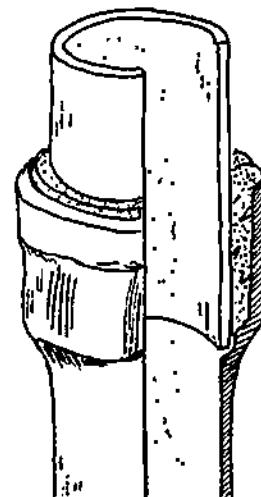

Figure 4-20. Gasket Pressed Between Hub and Barrel
1. The joint, shown in Figure 4-20, consists of a specially designed, patented gasket pressed into the space between the hub and the barrel.